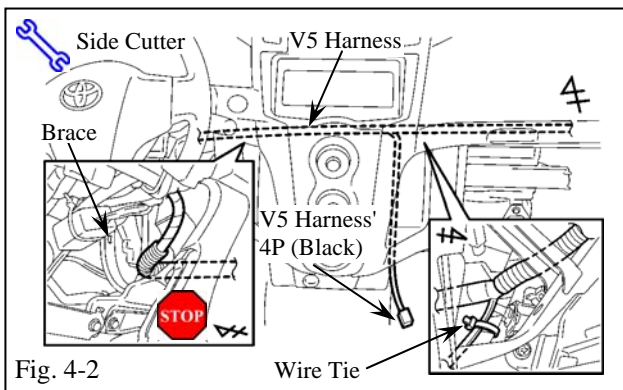

Fig. 4-2
- (c) Route the V5 harness toward the floor console area and glove box area, then secure it to the vehicle harness in the glove box area with one wire tie. (Fig. 4-2)
- (1) Be sure to route the V5 harness to the upper part of the brace as shown.
- (2) Route the V5 harness away from any moving parts such as levers, etc.